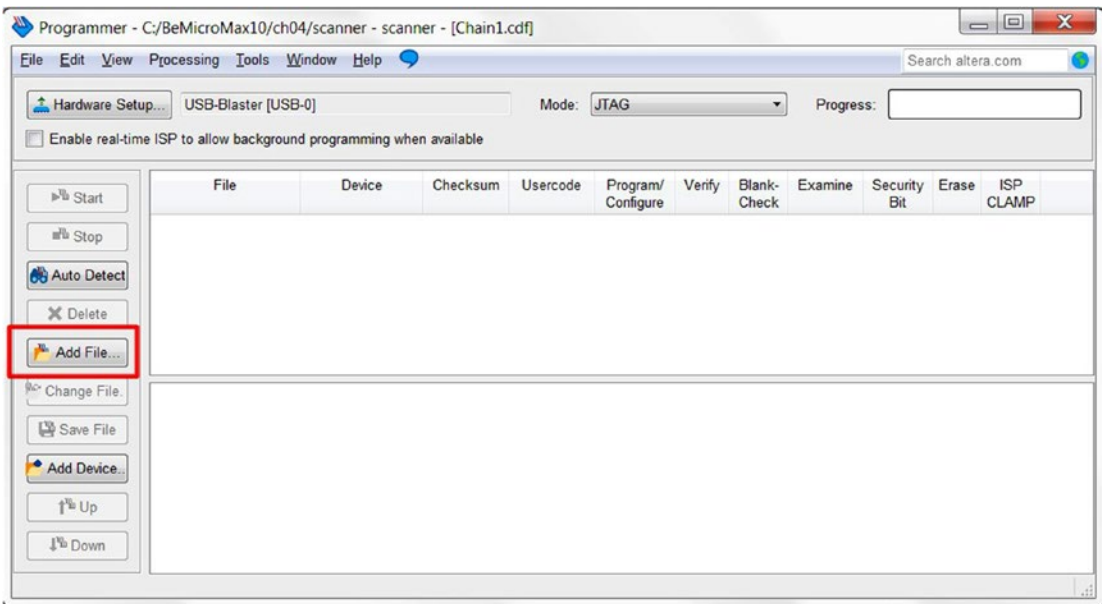

Figure 4-58. Programmer—Add File
3. Click **Add File...** (Figure 4-58)